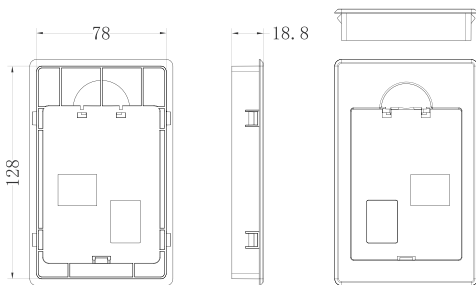

Figure 8-1 The size of the external lead installation base
- The external mounting base of the operation panel is an optional accessory, please order separately if necessary. The dimensions of the installation base are shown in Figure 8-1, and the unit is mm.